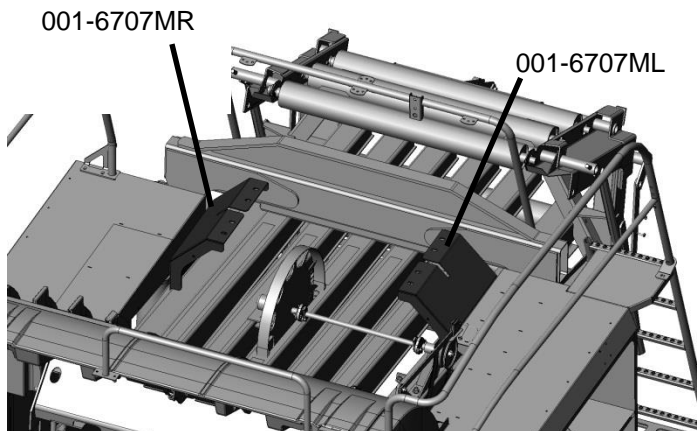

Figure 2
1. Install the two saddle legs (001-6707MR & 001-6707ML) on to the top of the baler chute as shown. Figure 2